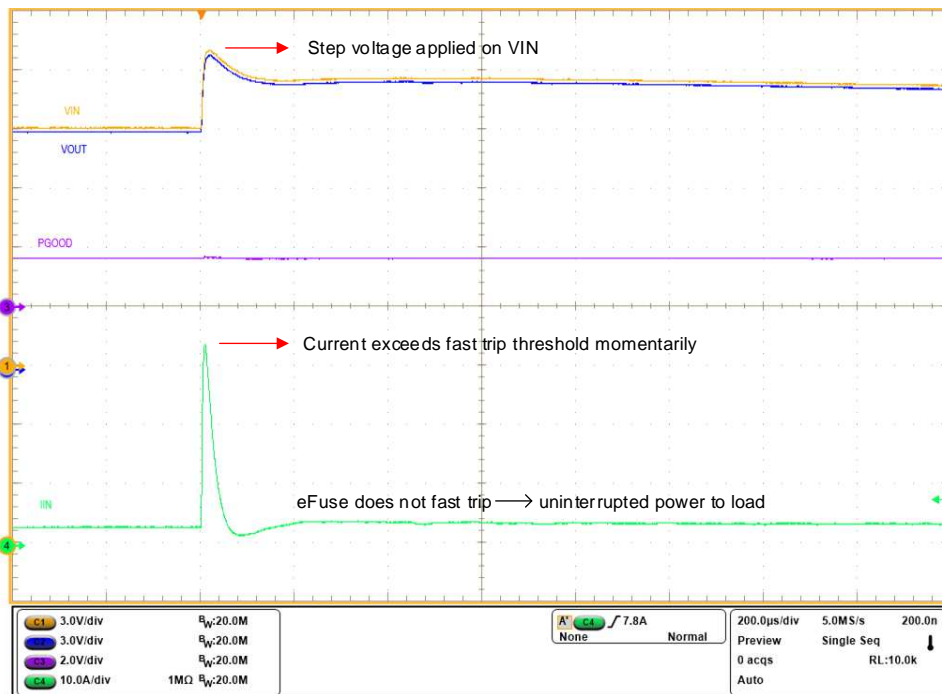

Figure 8. No Fast-trip in Case of Input Supply Voltage Step
- If there is a step change in the system bus voltage during a switch-over from primary supply to back-up supply, there is a large inrush current spike through the eFuse as the output capacitors get charged up quickly. The TPS25982 does not fast-trip in this condition as shown in Figure 8.